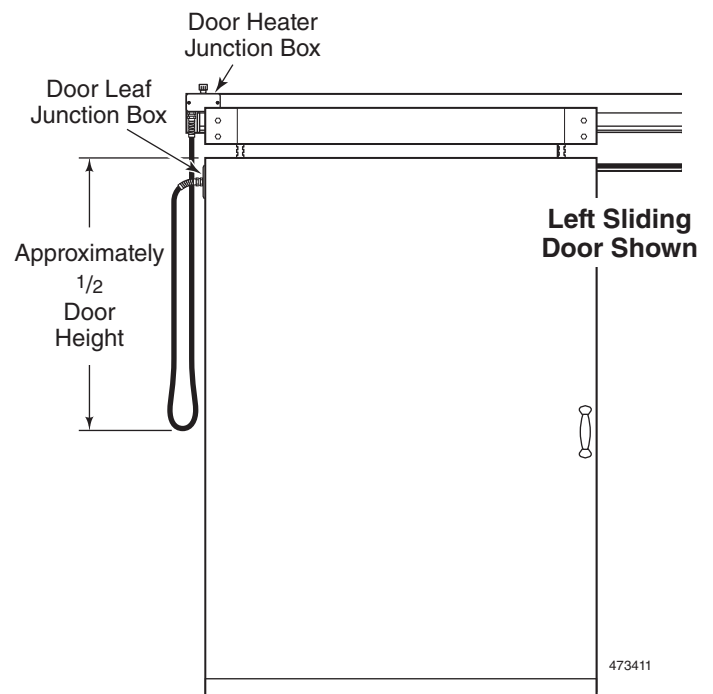

Figure 17
1. Carefully determine the proper length for the SJO cable(s). It must have enough slack to move freely and not get stretched tight when the door is closed. In the open position, the cable loop from the Door Heater J-Box(es) on the Header to the Door Leaf J-Box(es) should extend approximately half way down the door. See Figure 17.